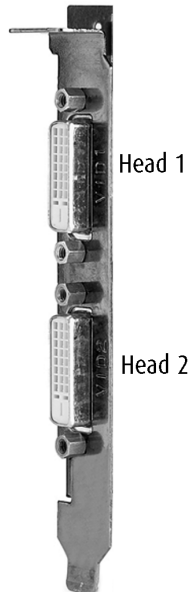

Figure 4: The Video Outputs.
6. Connect the primary display (left most display in a linear configuration, top most in a vertical configuration) to the uppermost connector on the BarcoMed CORONIS (the output farthest from the motherboard – "**Head 1**" in figure 4